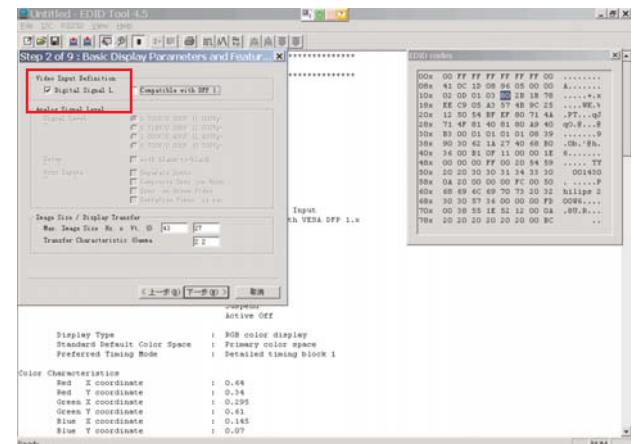

Fig. 22
1. Click Next , bring up Fig. 22. Then select Digital Signal as below